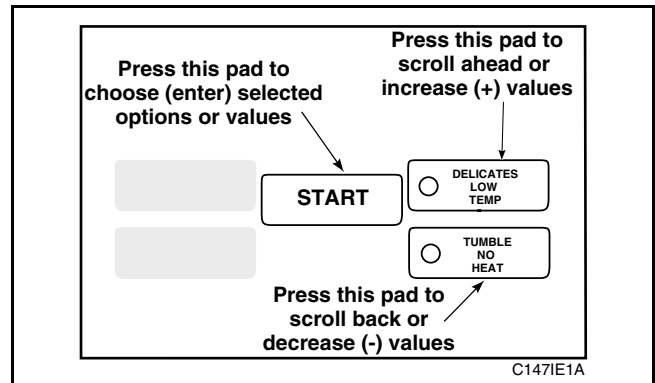

Figure 87
**NOTE: Sunday is considered day one (001), Monday is day two (002), and so on.**
5. Press the LOW TEMP (+) pad or the NO HEAT (-) pad to increase or decrease the day until correct, *Figure 87*.